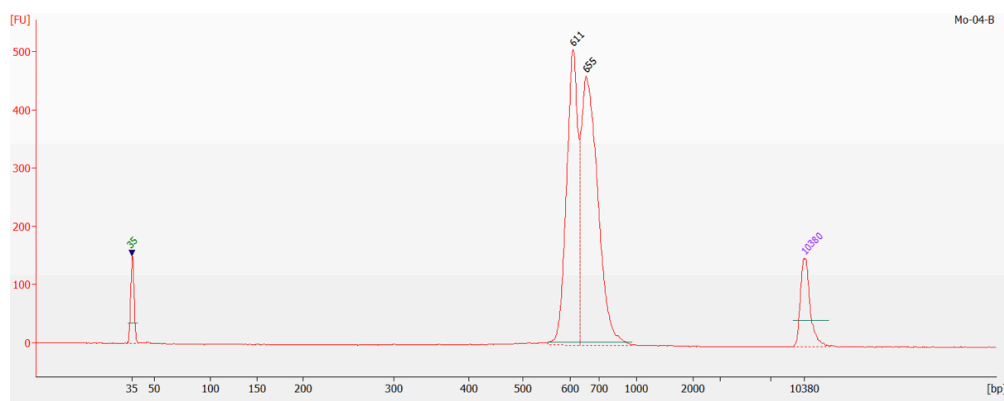

Figure 4. Example of B Cell Receptor library size distribution on a Bioanalyzer.
56.1 B Cell Receptor chain libraries will have an average size of 647 bp (Figure 4).